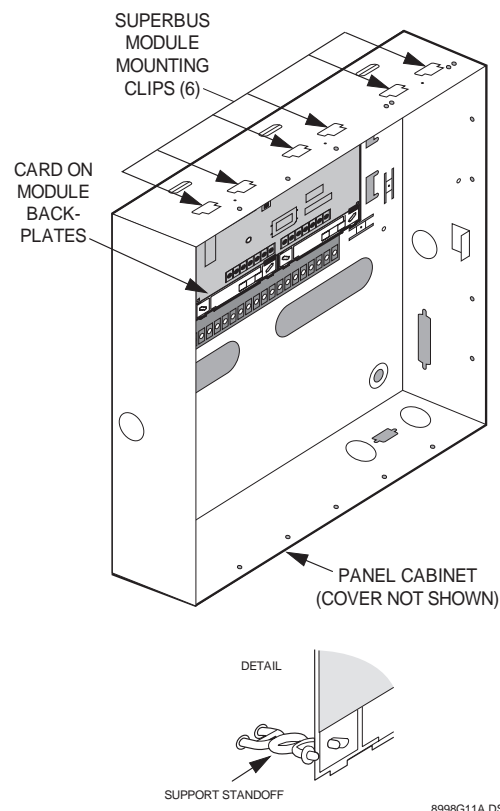

Figure 3. Mounting the Module Inside the Panel Cabinet
3. Slide the top of the back-plates onto the top left and center module mounting clips on the panel cabinet (see Figure 3).
- Lift back-plate assembly until it rests on the left cabinet wall tab (not shown) and standoffs align into lower back-plate holes (see detail in Figure 3).